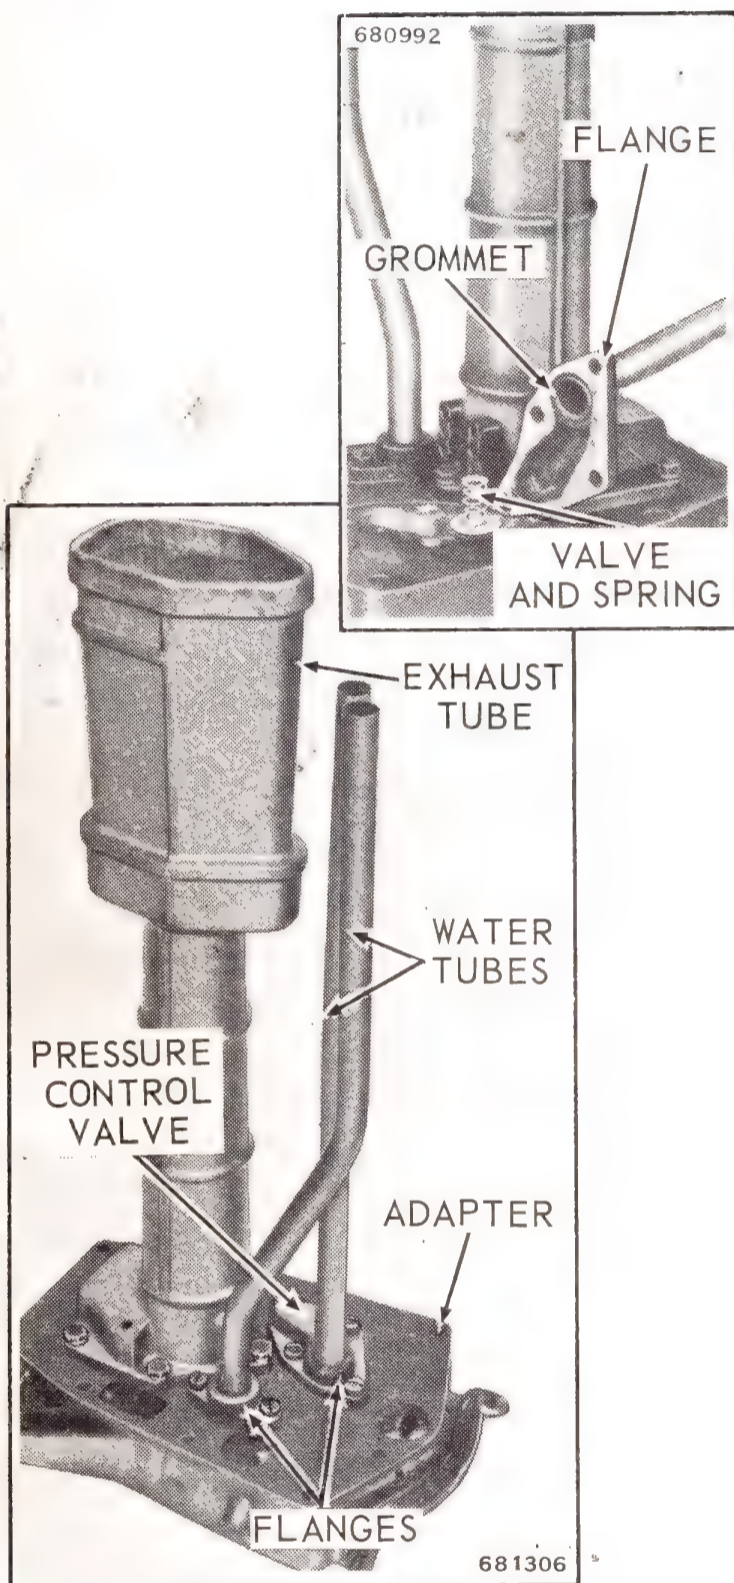

Figure 6-13. Inner Exhaust Tube, Water Tubes and Adapter
d. Remove four screws and lift adapter, inner exhaust tube, and water tube assembly from exhaust housing. See Figure 6-13.
e. If necessary to remove water tubes, remove screws attaching water tube flanges to adapter. See Figure 6-13 insert. Inner exhaust tube and gasket can be removed from adapter if necessary by removing five screws.